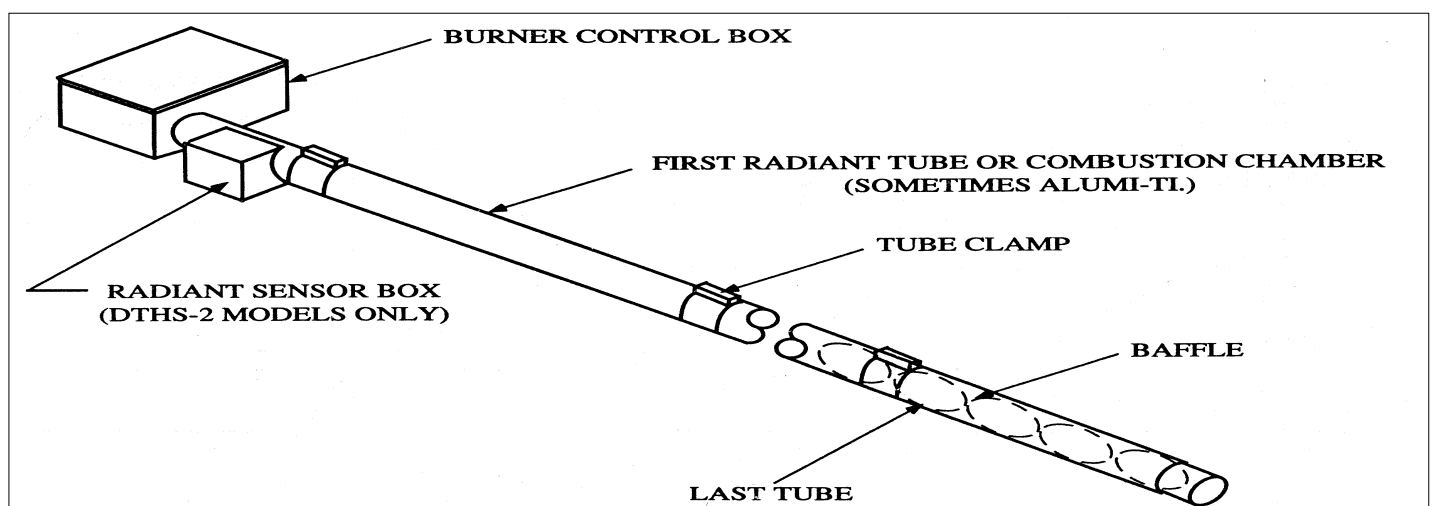

Figure 1-10
**IMPORTANT:** The DTHS models utilize one or two baffle(s) which must be installed in the last radiant tubes. Install these baffles before assembling tubes for ease of installation. See Figure 1-10. All baffles must be in the vertical position.